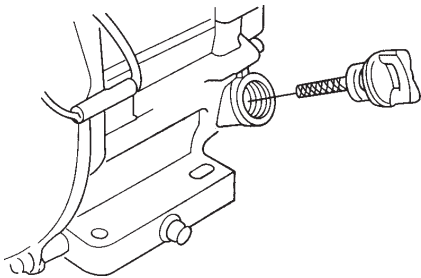

Figure 6. Engine Oil Level
2. Remove the filler dipstick from the engine oil filler hole (Figure 6) and wipe clean.